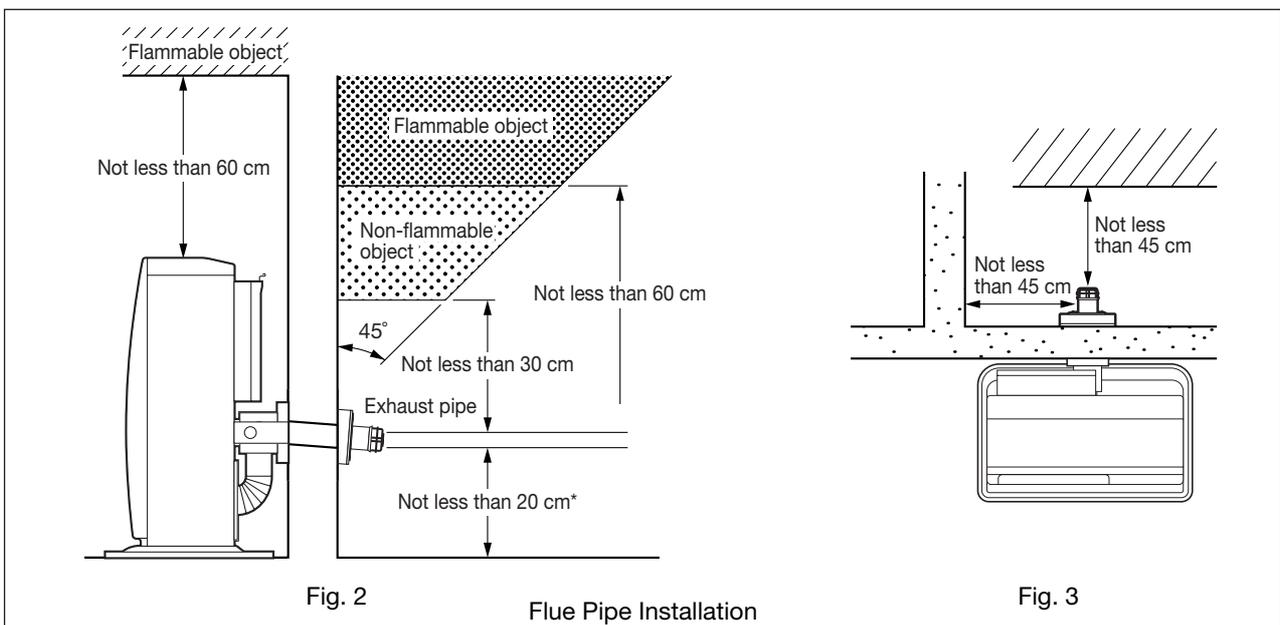

Fig. 2
1. Intake air and exhaust flue pipe openings of the Flue Pipe must be fully exposed to outside. The Flue Pipe must not vent into a chimney, garage, basement, under-floor or ceiling cavity, or any enclosed area, or be installed vertically, because the Flue Pipe is a "Heat Exchanger" which causes condensate to form in the exhaust pipe, and which must drain to outside. (See Fig. 2 Page 25).
2. Install Flue Pipe (See Fig. 2 and 3, Page 25.) Note the volume and temperature of the hot exhaust gas that the exhaust pipe discharges to outside, is minimal, and does not normally present any problems.
2. Ensure the outdoor flue discharge area is clear of anything that might be affected by the hot flue exhaust gas. (See Fig. 2 and 3.)
The Flue Pipe (as in Fig. 2), is for wall thickness from 130 mm to 320 mm.